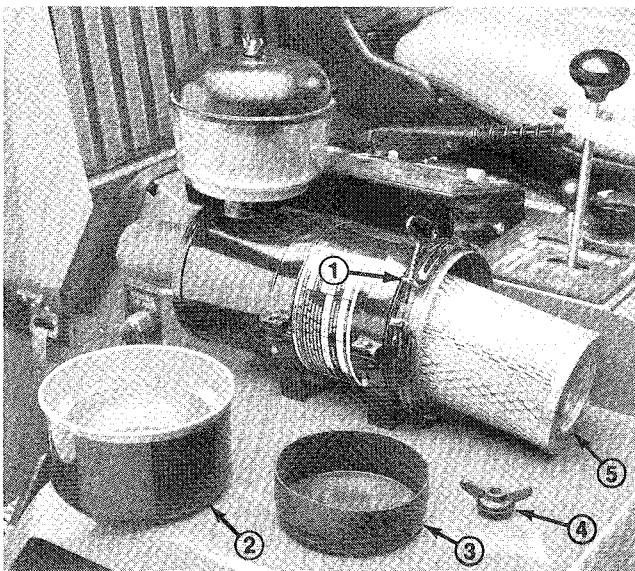

Figure 33
2. Filter Service (Fig. 33) –The warning indicator light or audible signal warn the air filter is glogged. Also, lack of power, excessive oil consumption and excessive exhaust smoke could mean that the filter needs cleaning. Service the air cleaner filter every 200 operating hours, or more frequently in dusty and dirty conditions. Replace filter after every six cleanings (800 hrs.) or annually, whichever comes first.